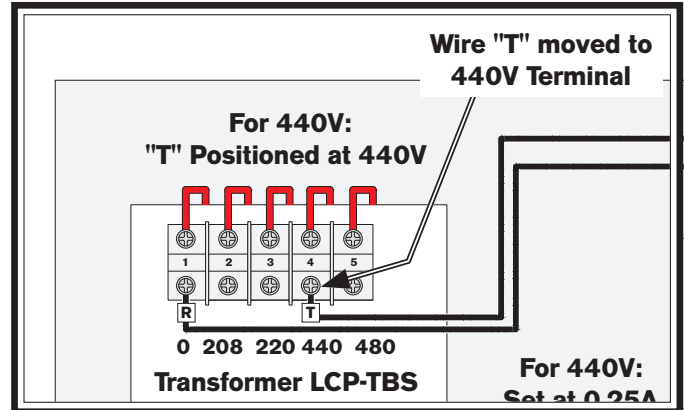

Figure 56. Wire "T" moved to 440V.
- Move the "T" wire from the 220V terminal to the 440V terminal on the transformer, as shown in **Figure 56**.